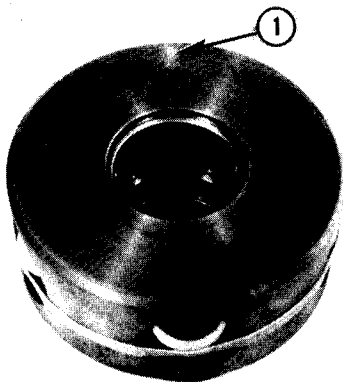

FIG. 4.47-LETTER STAMPING ON ROTOR
14. Locate a letter, No. 1, Fig. 4.47, stamped on the face of the rotor.